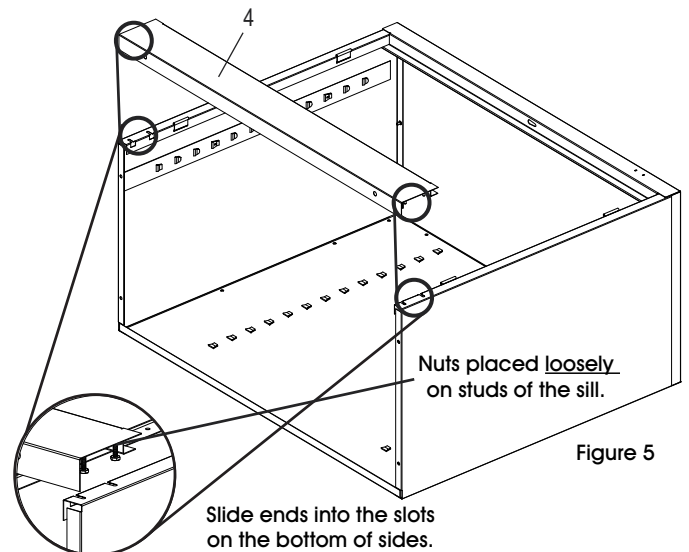

Figure 5
5. Attach the sill (4) to the sides. Place nut loosely on each of the studs and slide the ends of the sill into the slots on both sides on the unit. Then securely tighten the nuts. (See Figure 5)